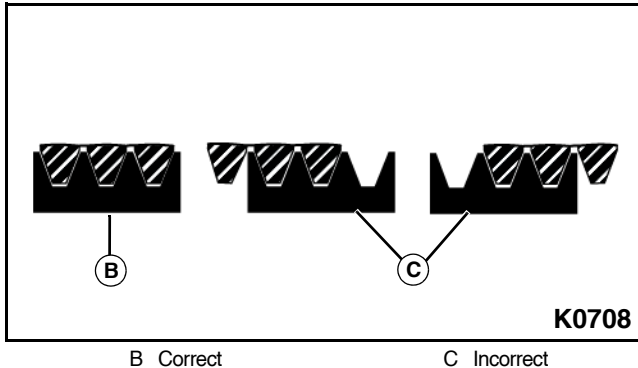

Figure 5-19
3. Place the new drive belt on the pulleys. Make sure that the belt is properly aligned with the grooves on each pulley. See Figure 5-19.